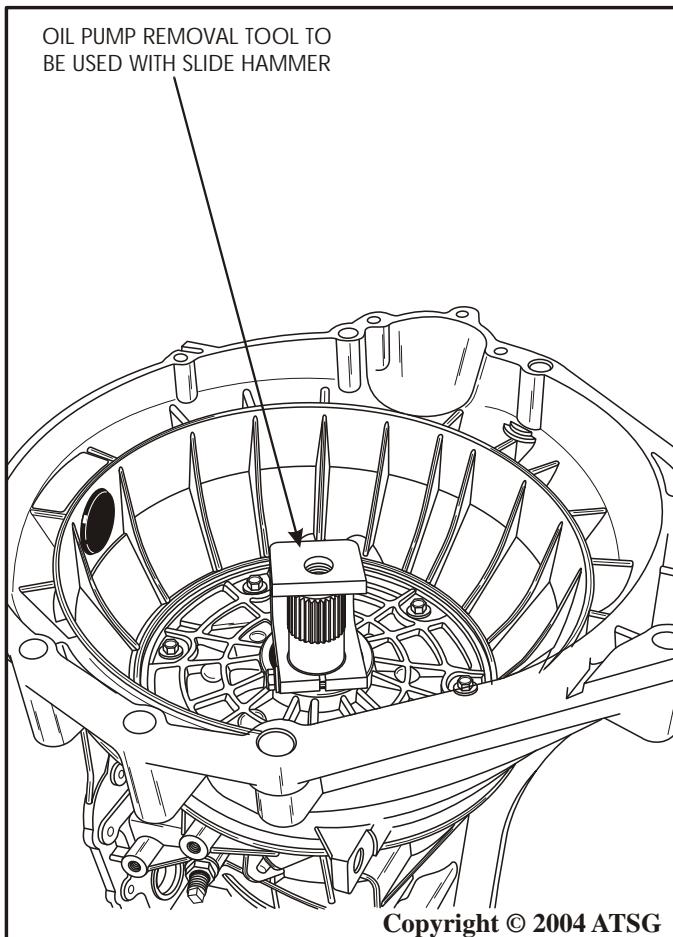

Figure 35
27. Install the special pump puller, to be used with a slide hammer, as shown in Figure 35.